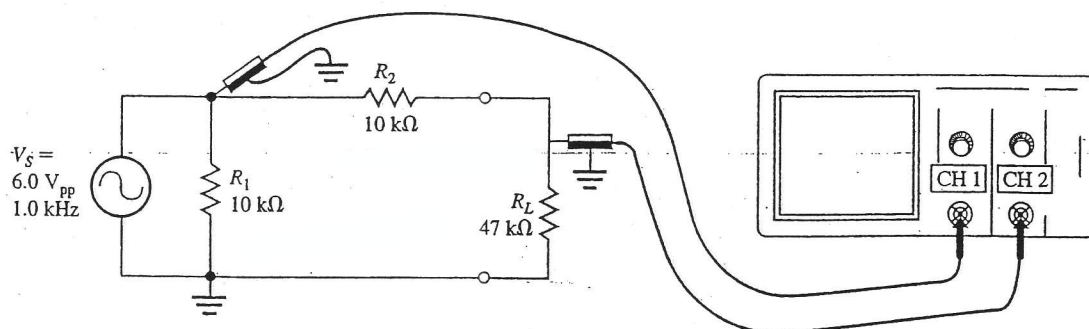

Figure 33-3
1. Connect the circuit shown in Figure 33-3. Connect the signal generator to the circuit and set it for a  $6.0\text{ V}_{pp}$  sine wave at a frequency of  $1.0\text{ kHz}$  with no dc offset. Observe the input and output waveforms on the oscilloscope by connecting it as shown. Notice that  $R_2$  and  $R_L$  form a voltage divider, causing the load voltage to be less than the source voltage.  $R_1$  will provide a dc return path in case the signal generator is capacitively coupled.